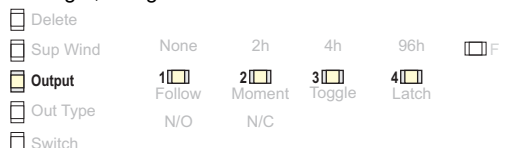

Figure 5 Select the output number
4. Use the advance button to select the output number (Fig. 5).